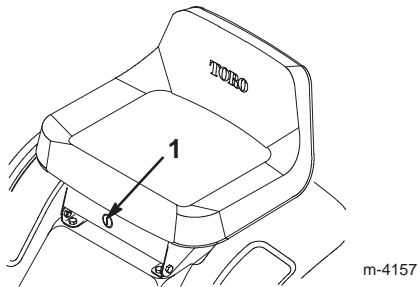

Figure 10
If you need to use the blade control (PTO) while backing up, turn off the interlock feature using the KeyChoice switch located near the seat bracket (Fig. 10).
2. Insert the KeyChoice key into the switch (Fig. 10).